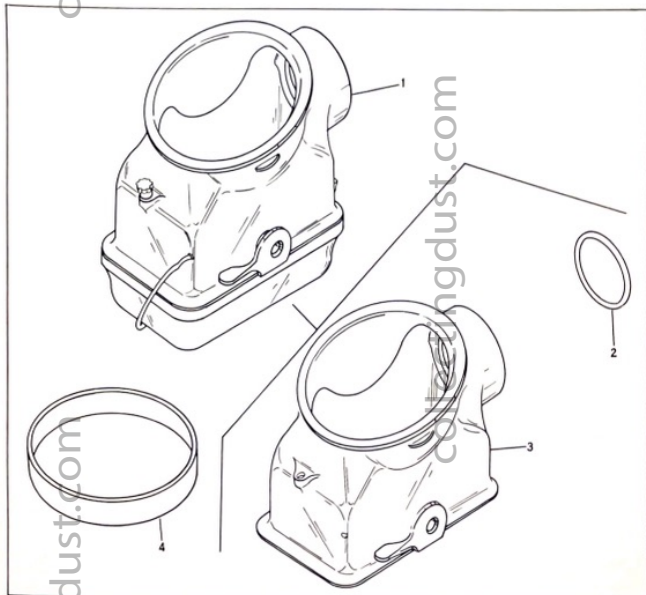

Figure 4-2. Emtor Group Parts (Model 516/ ) \*
- (1) Remove the emtor gasket (3, fig. 4-2) from the emtor upper casting (3).